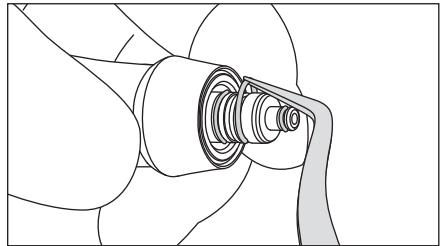

Fig.12
- If powder adheres to the O-ring section, remove the O-rings, and carefully clean the O-rings and grooves. (Fig. 12)